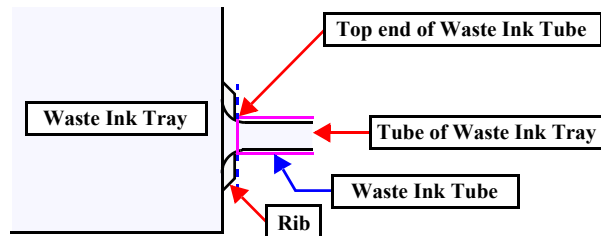

Figure 1-47. Cautions of inserting the Waste Ink Tube
- As shown in Fig.1-47, insert the Waste Ink Tube over the tube of the Waste Ink Tray until the top end of the Waste Ink Tube contacts with the rib.